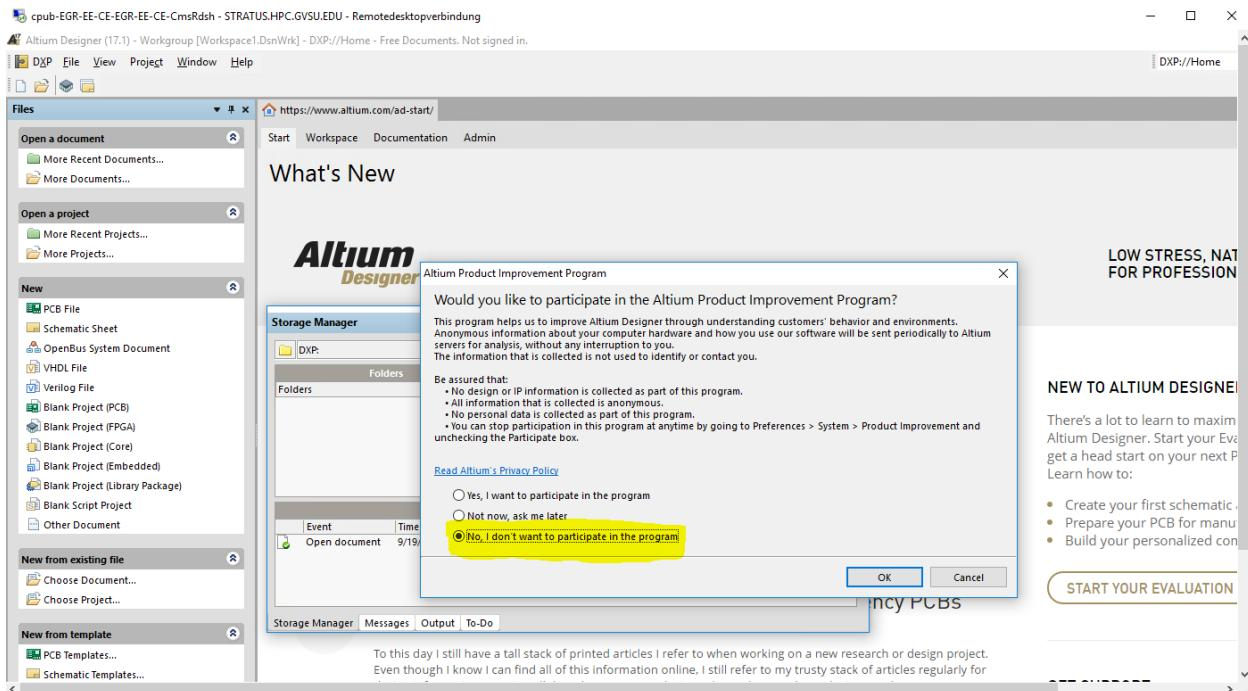

Figure 6: Altium Designer 17.1 Altium Product Improvement Program.
4. After Altium Designer start up process is finished and you are using Altium for the first time, your screen should look similar to figure 6. Choose the highlighted bullet point that says "No, I don't want to participate in the program" and click OK button.